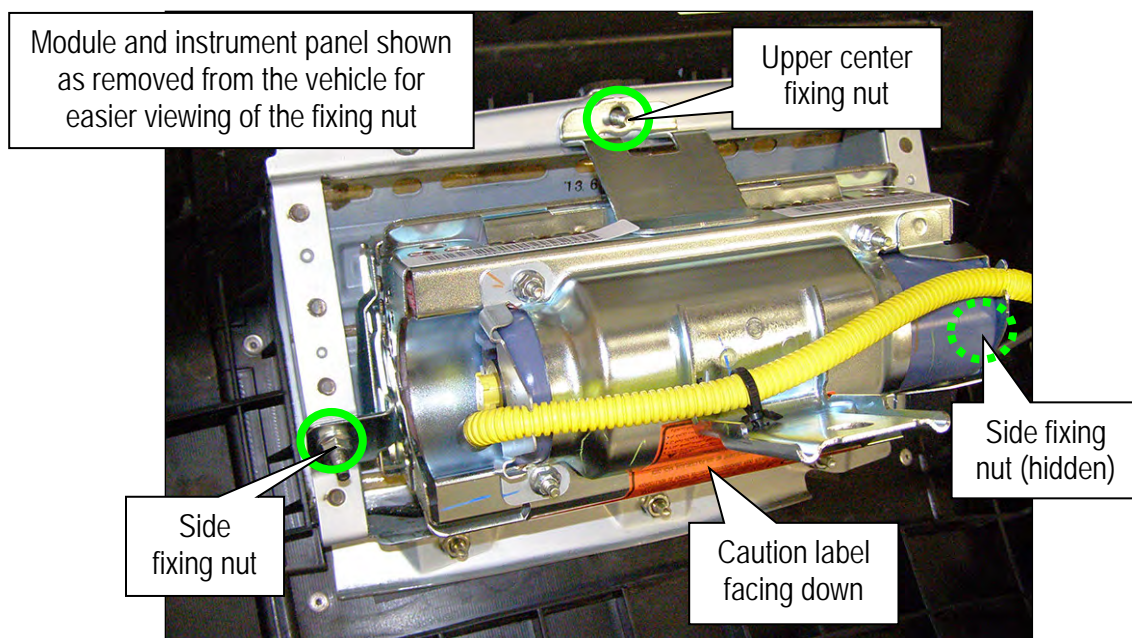
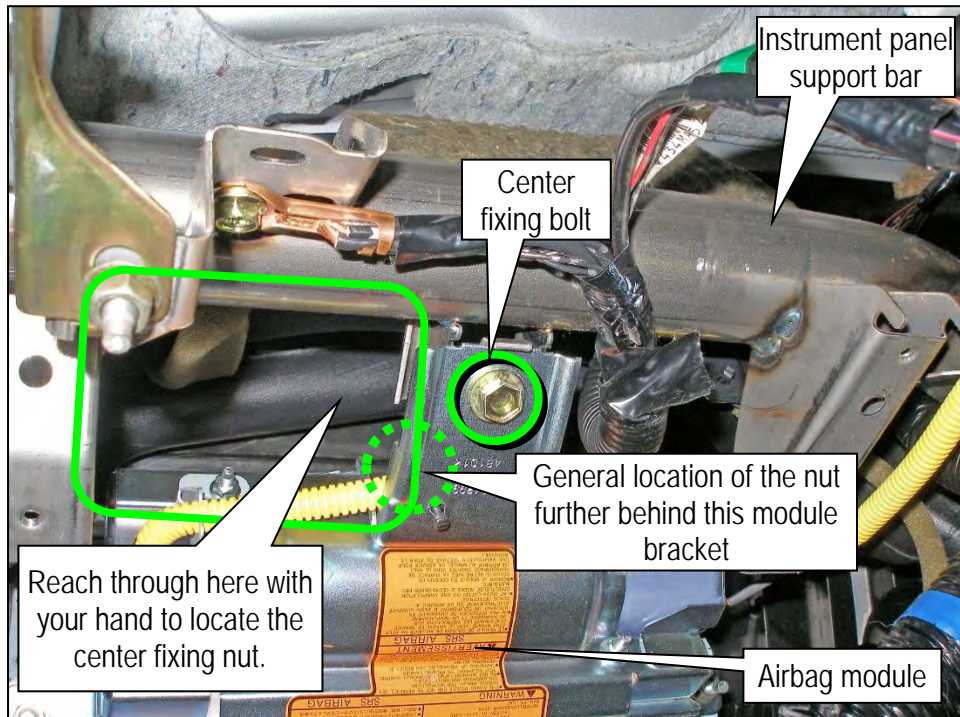
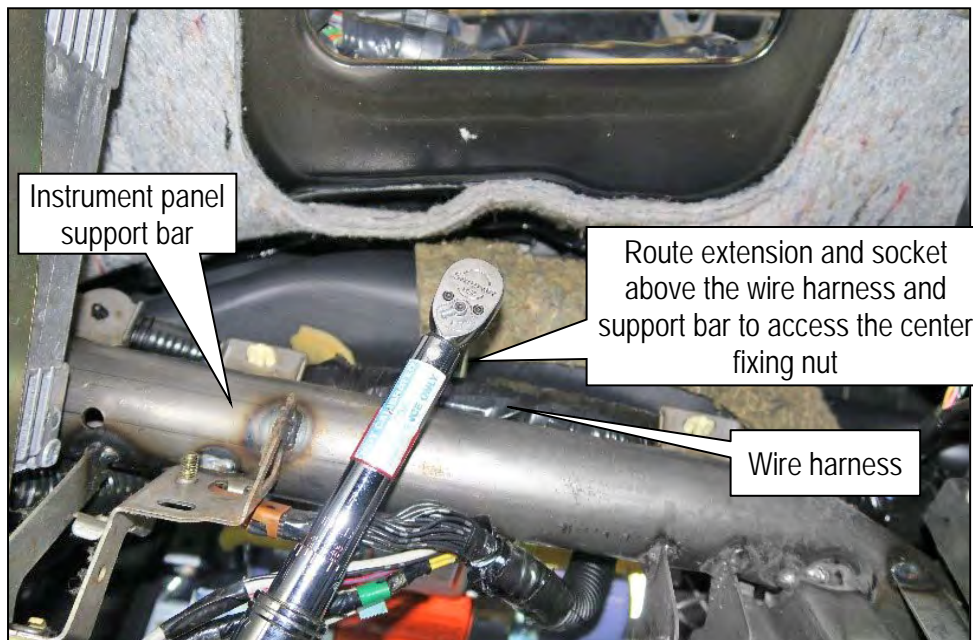

Figure 16
Figure 17
Figure 18
21. Install the new front passenger airbag module (Figure 16, Figure 17, and Figure 18).
- a. Using the three (3) **new** fixing nuts supplied with the replacement airbag module, secure the front passenger airbag module mounting brackets to the supports on the back of the instrument panel.
- HINT:** One of the side fixing nuts is hidden (Figure 16).
**HINT:** Figure 17 and Figure 18 show the center fixing nut's general location when viewed with the case removed, and while lying on the front passenger floor with your head under the instrument panel and looking up.
- b. Install the center fixing bolt (Figure 17).